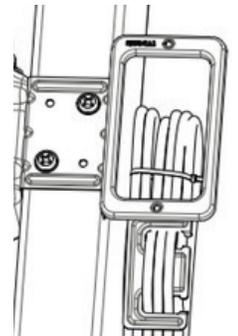

Figure 3
4. If more than 3 cables are required, the extra cables may be secured with a cable tie as shown in Figure 3.